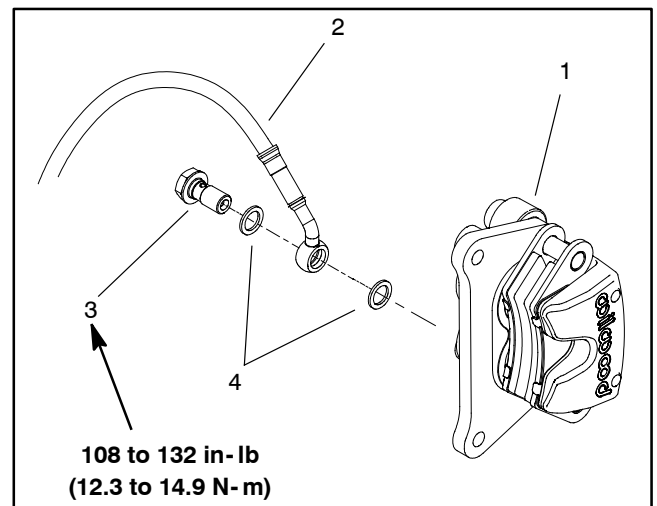

Figure 5
4. Disconnect brake line from caliper (Fig. 5):
- C. Carefully separate brake line from caliper. Locate and retrieve two (2) banjo washers from sides of brake line fitting.
5. Remove two (2) flange head screws that secure the brake caliper to the machine.
2. Align caliper with mounting holes. Secure caliper with two (2) flange head screws. Torque screws from **35 to 40 ft-lb (48 to 55 N-m)**.
3. Connect brake line to caliper (Fig. 5):